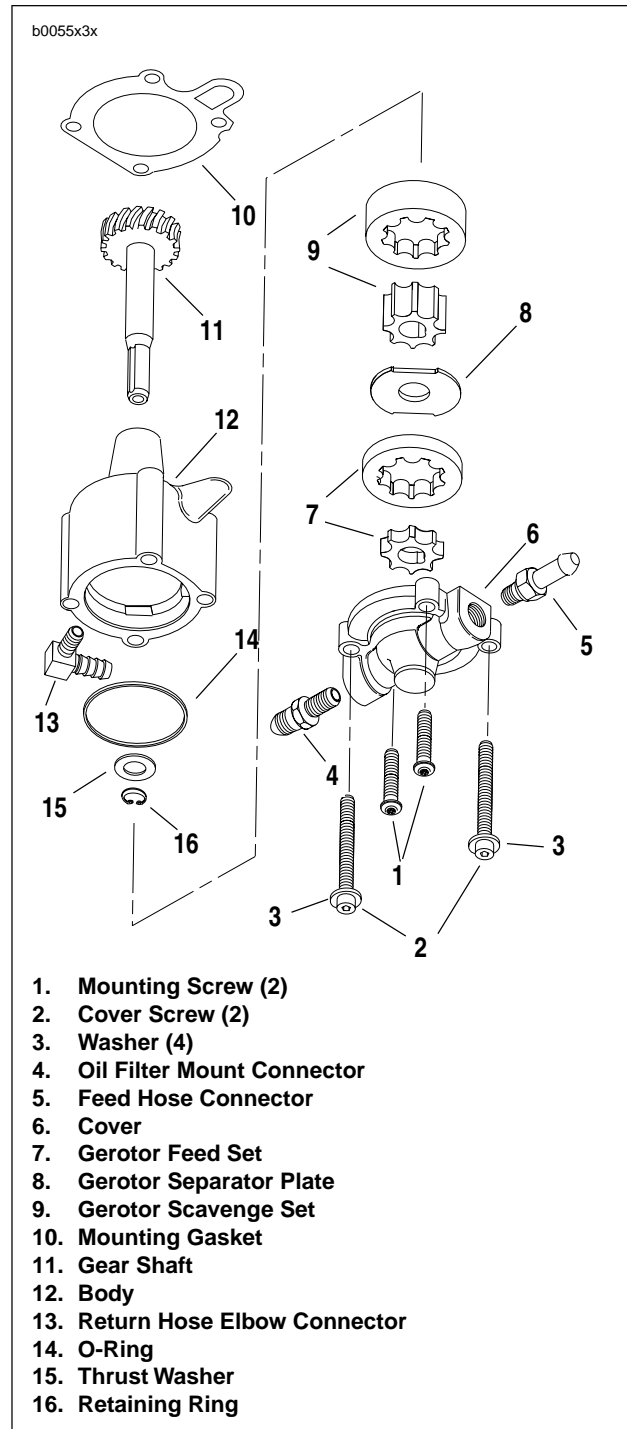
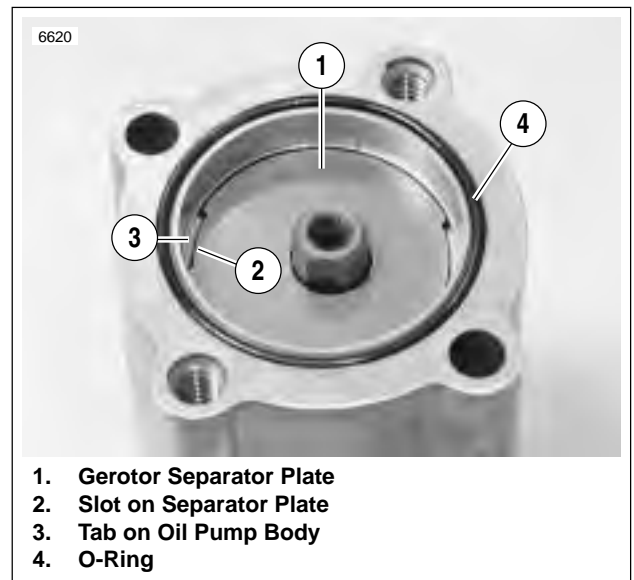

Figure 3-52. Oil Pump
Figure 3-54. Separator Plate Slots
See Figure 3-52. Gravity-fed oil from the oil tank enters the pump through the feed hose connector (5). It is forced by the gerotor feed set (7) through a hose to the oil filter. Return oil from the flywheel compartment is drawn back into the pump and is forced by the gerotor scavenge set (9) back to the oil tank.
4. Carefully remove mounting screws and washers (1). Pump will drop with screws removed. Discard mounting gasket.
5. Remove clamp and detach return hose connection (4).
6. See Figure 3-52. Remove T27 TORX cover screws (2) and washers (3). Lift cover (6) off body (12). Remove and discard O-ring (14).
7. Slide both pieces of gerotor feed set (7), separator plate (8) and both pieces of gerotor scavenge set (9) off gear shaft (11).
8. Remove and discard retaining ring (16). Remove thrust washer (15) and gear shaft (11).
- See Figure 3-52. Install gear shaft (11) through body (12). Position thrust washer (15) over end of shaft. Install **new** retaining ring (16) into groove in shaft.
- Insert inner gerotor of the gerotor scavenge set (9) over gear shaft.
- Place outer gerotor over inner to complete scavenge set (9).
- See Figure 3-54. Position gerotor separator plate into case and line up slots on perimeter with tabs inside oil pump body.
- Place gerotor feed set (7) over gear shaft (11).
- Install a **new** O-ring (14) into groove in cover (6). Place cover onto pump body. Install T27 TORX cover screws (2) with washers (3). Tighten to 70-80 **in-lbs** (7.9-9 Nm).
- Place **new** mounting gasket (10) in position.